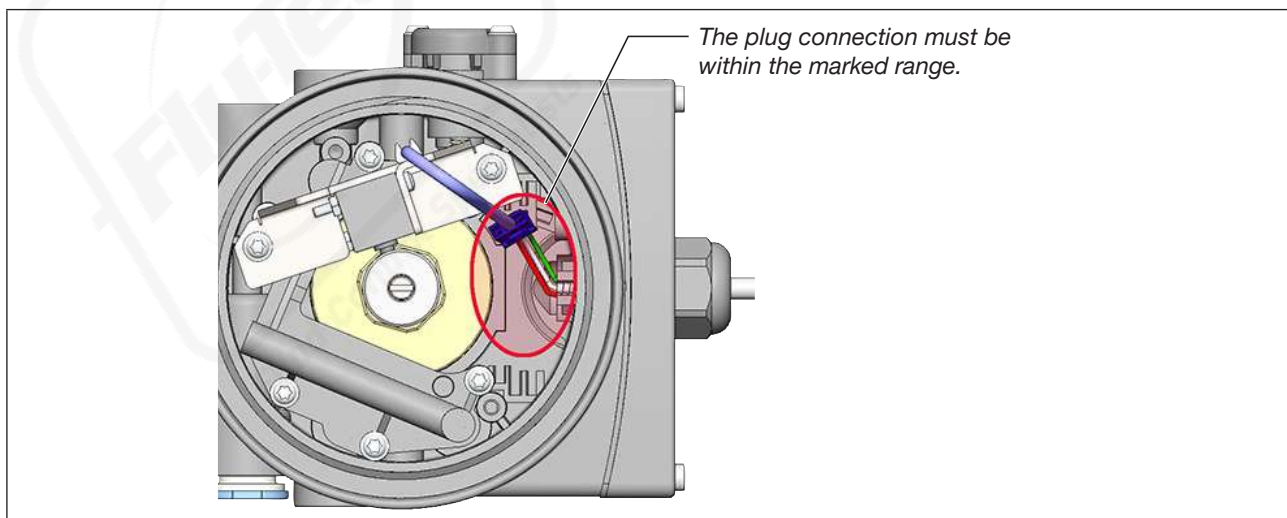

Figure 14: Position of the electrical plug connection in the position sensor
- When tightening the cable gland, pay attention to the position of the plug connection. See marked area in the following “Figure 14”.